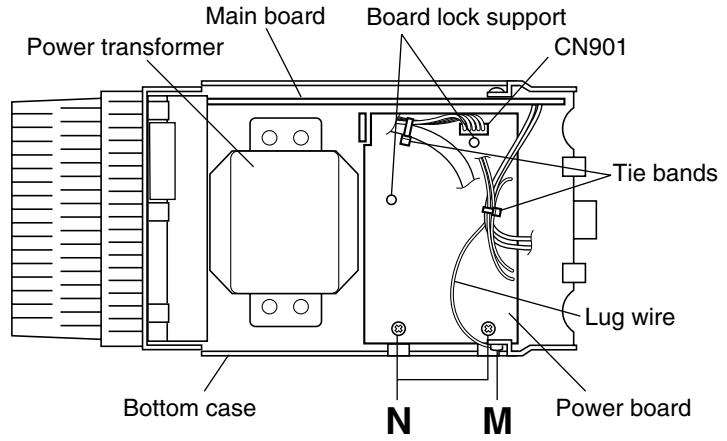

Fig.16
(See Figs. 16 and 17.)
1. Disconnect the wires from the connector CN901 on the power board. (See Fig.16.)
2. Remove the tie band bundling the wires. (See Fig.16.)
3. Remove the screw **M** retaining the lug wire. (See Fig.16.)
4. Remove the two screws **N** retaining the bottom case. (See Fig.16.)